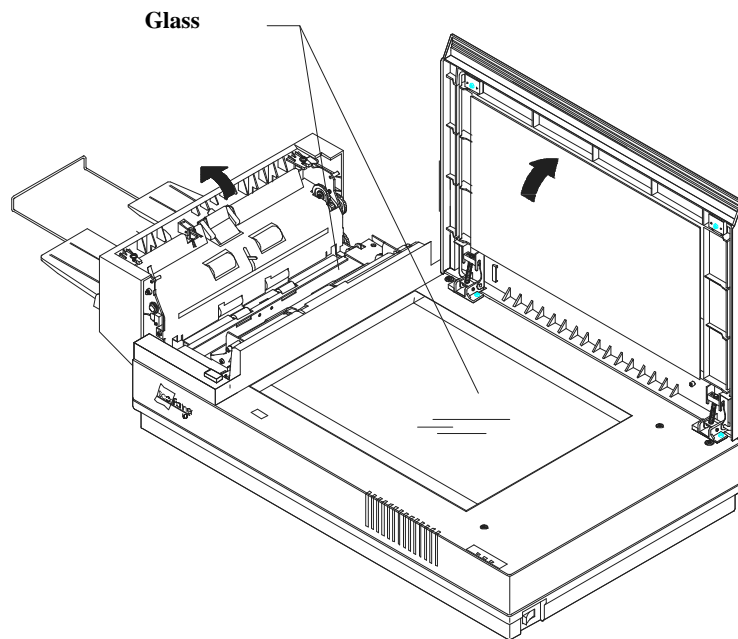

Figure 3-2 - The Cleaning Area
- ii) Open the ADF unit and document cover as shown in Figure 3-2. Wipe the glass of flatbed area and ADF area by moving the swab from side to side.